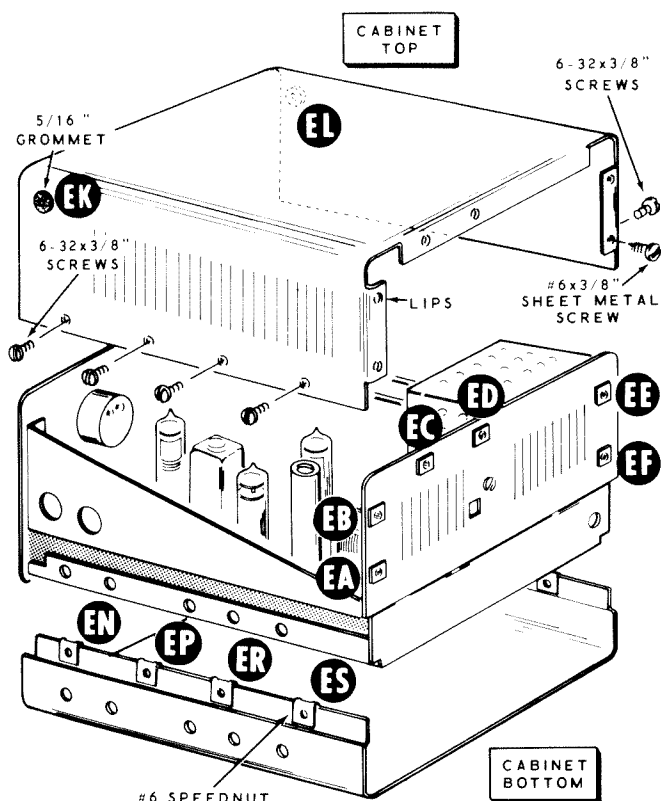

Figure 1-9
2. Remove screws EA through EF (see Figure 1-9).